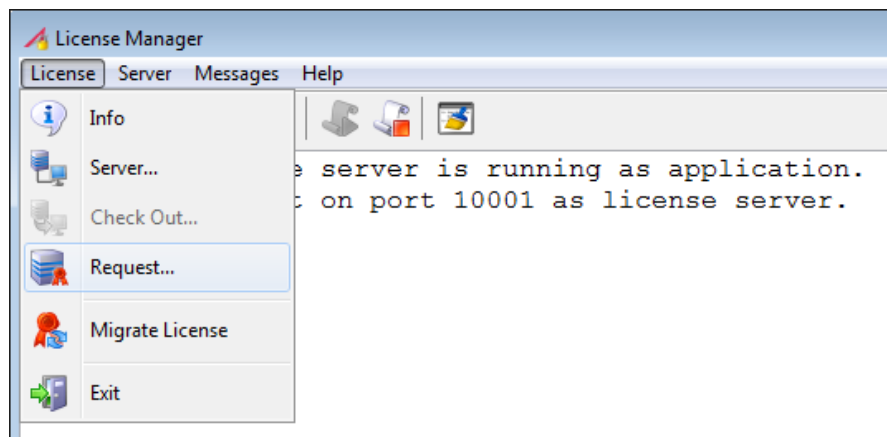

Figure 1.8: Starting the key request
- Click on “License” > “Request” (see figure 1.8).